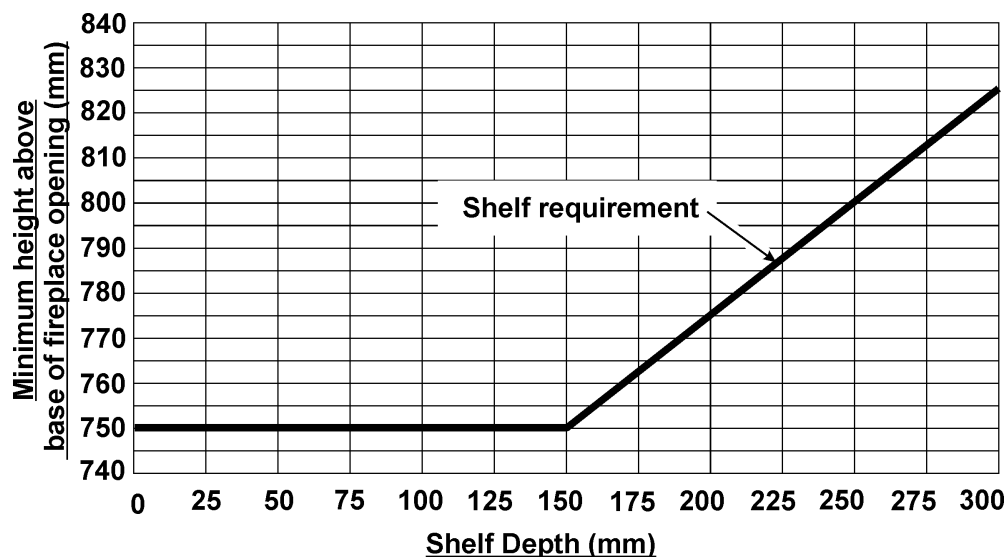

Figure 2. Combustible shelf clearances
- For a shelf deeper than 150mm: 750mm + 12.5mm for every 25mm depth over 150mm (See Figure 2).